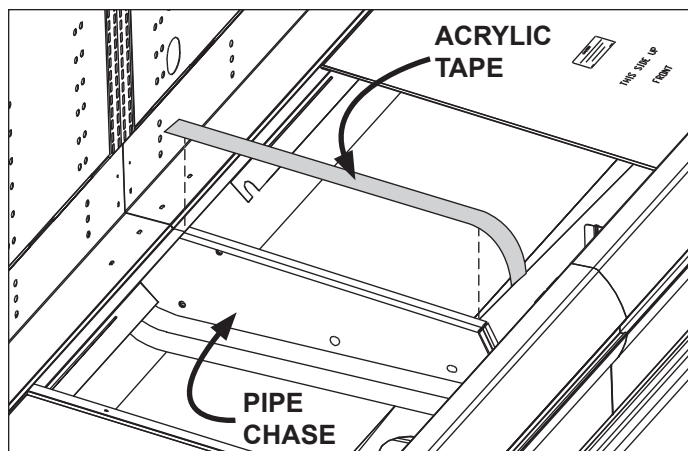

Fig. 4 Sealing the pipe chase
4. Seal the interior case-to-case joints with caulk (supplied), then apply acrylic tape (supplied) over the pipe-chase seam (Fig. 4). The tape acts as a watershed preventing water from settling in the case joint.